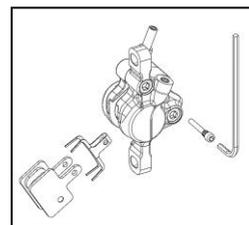

Fig. I-2 Caliper assembly
- Remove the pads from the bottom end of the caliper. **(Fig. I-2)**